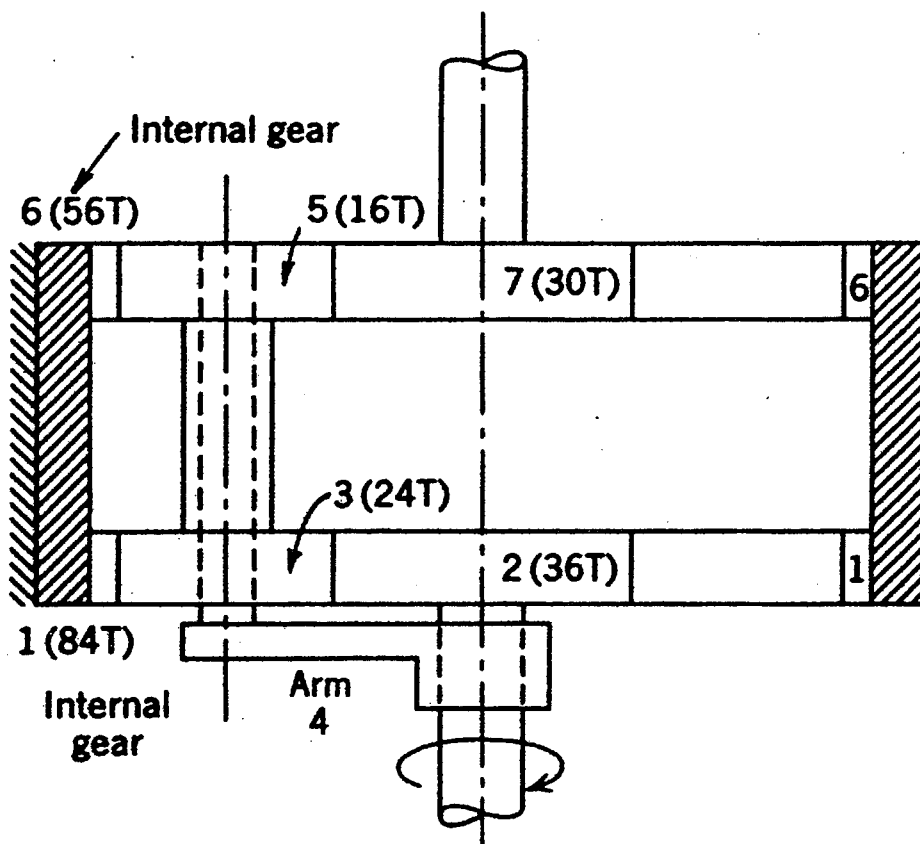

Figure 2
- a) In the planetary gear train shown in Figure 2, determine the angular velocity ratio  $\omega_2/\omega_7$ .